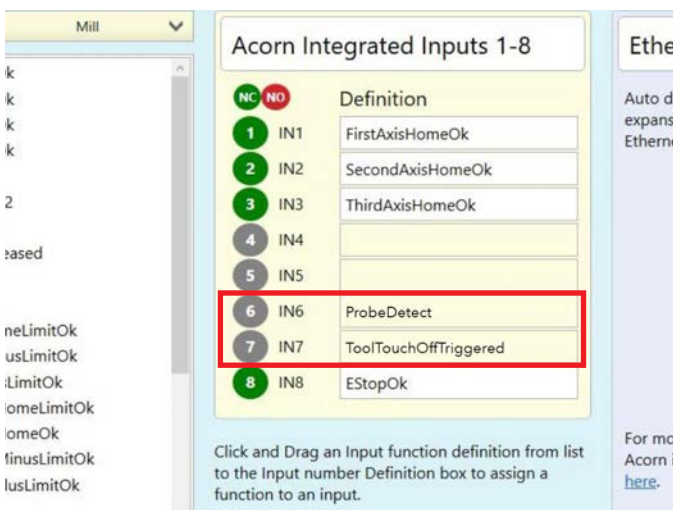

FIGURE 12
7. Click on “Input Definitions” and the Input Definitions page will open (see Figure 12).
8. From the input table, select and drag over “ProbeDetect” and “ToolTouchOffTriggered” to IN6 and IN7 (see Figure 12).